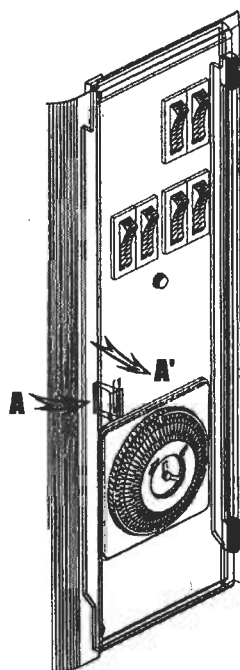

Figure 10
- To access to switches and timer, open the switch panel cover by pushing on the side (arrow A) and pulling (arrow A') (Fig. 10).